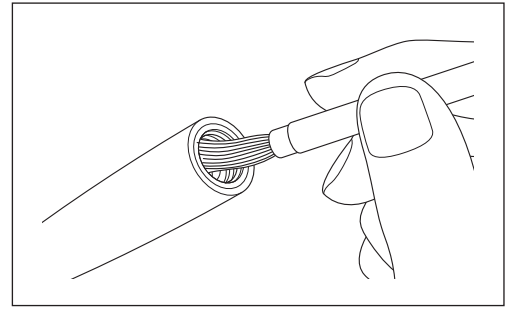

Fig. 38
- 3) Use the supplied Cleaning Brush to remove powder from the interior section where the Handpiece was connected (Fig. 38).